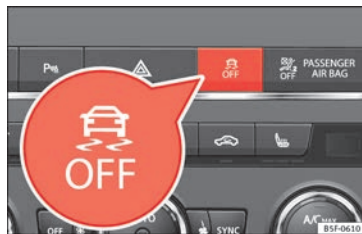

Fig. 197 Centre console: Button for switching on/off the ESC and ASR
- Press the  button »» Fig. 197 for approximately 1 second to switch to ESC Sport mode.
- Press the button  »» Fig. 197 for approximately 3 seconds to switch off the Electronic Stability programme (ESC), including the ASR function. The  control lamp lights up and the **ESC OFF** message is displayed permanently on the instrument panel display.
- The ASR and ESC function are reconnected by pressing the button  »» Fig. 197.